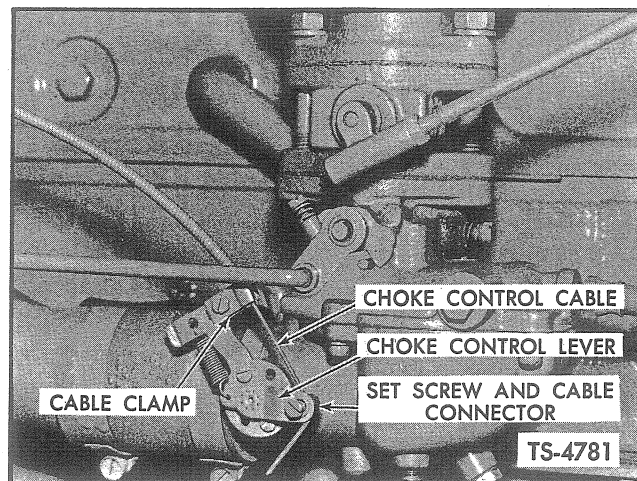

Fig. 13. Adjust Choke Control
4. Adjust cable tension as necessary at choke lever on carburetor by loosening cable clamp and set screw from cable connector and increasing cable tension as necessary. Resecure cable in cable connector by retightening set screw and cable clamp. See Figure 13.